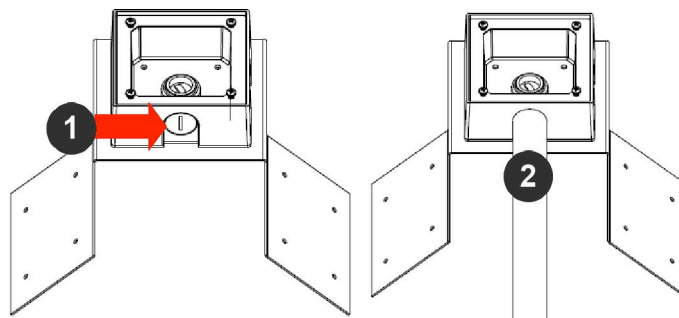

Figure 1: Attach conduit to SV-JBA junction box adapter
3. Attach the Junction Box Adapter to the Corner Mount Adapter as shown in Figure 1.
4. Remove the conduit plug on the junction box adapter and connect ¾" NPT conduit to the junction box adapter as shown in Figure 1.